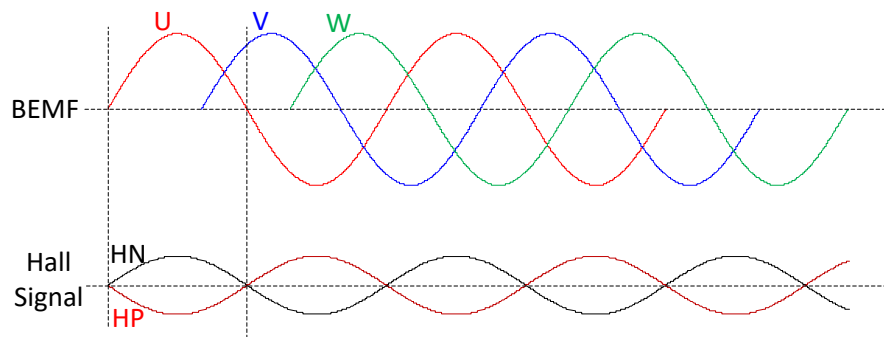

Figure 11. Hall Placement=0° HallPos=0 Hall Element Input
(1) Phase U is leading phase V by 120°. Phase V is leading phase W by 120°. The hall positive output is aligned with BEMF of phase U in the opposite direction. Set the register HallPos to 0. The sequence is shown in Figure 11.